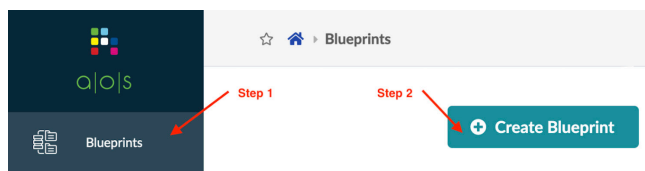

Figure 4.2 Creating a New Blueprint
Step 1. Go to Blueprints. See Figure 4.2.